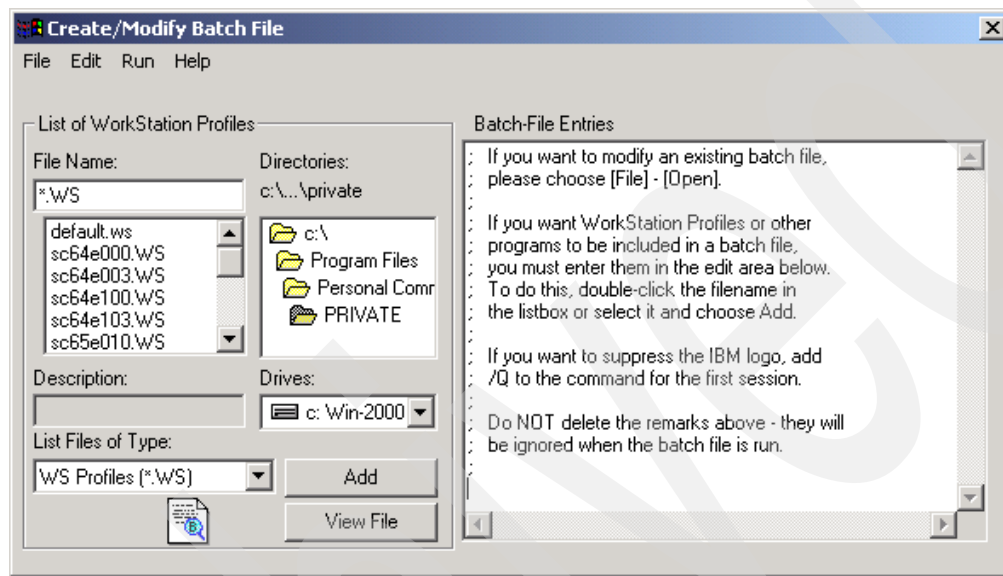

Figure E-7 PCOMM create batch file
2. The Create/Modify Batch File panel is displayed (see Figure E-7). Select the required session profile from the File Name list, and click **Add**.